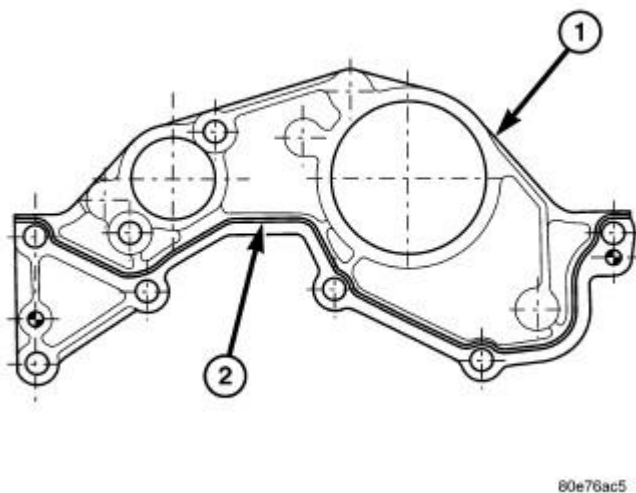

Fig. 93: Cylinder Head Cover Sealing Surface
1. Apply sealant to the marked surfaces with a bead thickness of 1.5 ± 0.5 mm. See **Fig. 93**.